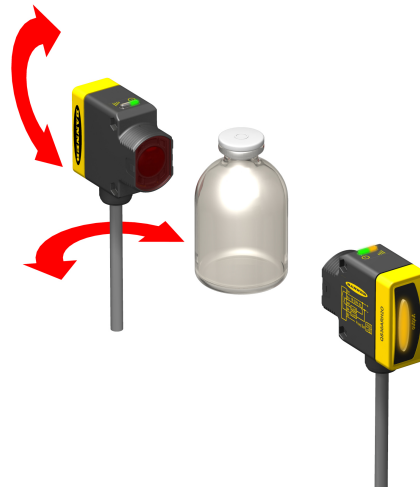

Figure 2. Sensor Alignment Procedure
The sensors' innovative circuitry provides excellent EMI/RFI noise immunity. For applications where optical crosstalk between multiple sensor pairs may be a problem, either of two modulation frequencies may be selected. (Set each emitter to the same frequency as its receiver, via the sensor hookup; see Figure 2. Sensor Alignment Procedure on page 3 or Hookups on page 7.)
Discrete models require no configuration; simply align the emitter to the receiver to maximize contrast between the clear and blocked conditions (see Figure 2. Sensor Alignment Procedure on page 3).
1. Position both the emitter and the receiver loosely in their mounting position. See Figure 2.